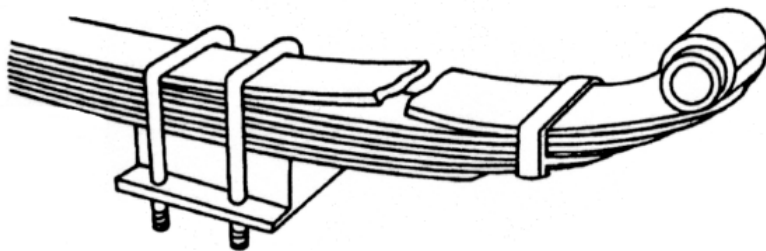

Figure 2-3
- ✓ Missing or broken leaves in any leaf spring. If one fourth or more are missing it will put the vehicle "out of service", but any defect could be dangerous (Figure 2-3).